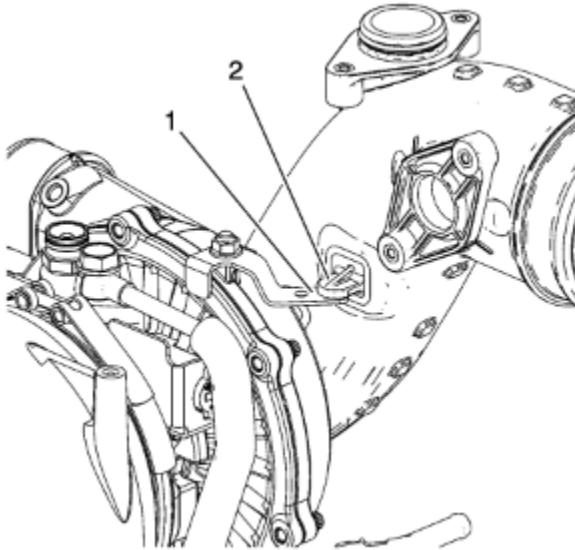

Fig. 115: Turbocharger air inlet adapter clocking
- e. Rotate the air inlet adapter until the tab (item 2 in figure 115) contacts the air inlet adapter tube bracket (item 1 in figure 115). Tighten the air inlet adapter holding clamp to 89 in-lb.